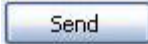

Figure 130: Receiver Setup/Configure SF-3040 Radio
1. On the *Receiver Setup* menu of StarUtil 3000, click *Configure SF-3040 Radio* (see Figure 130) to display the *SF-3040 Radio Configuration and Status* dialog box (see Figure 131).
Refer to Figure 130 for the steps below.